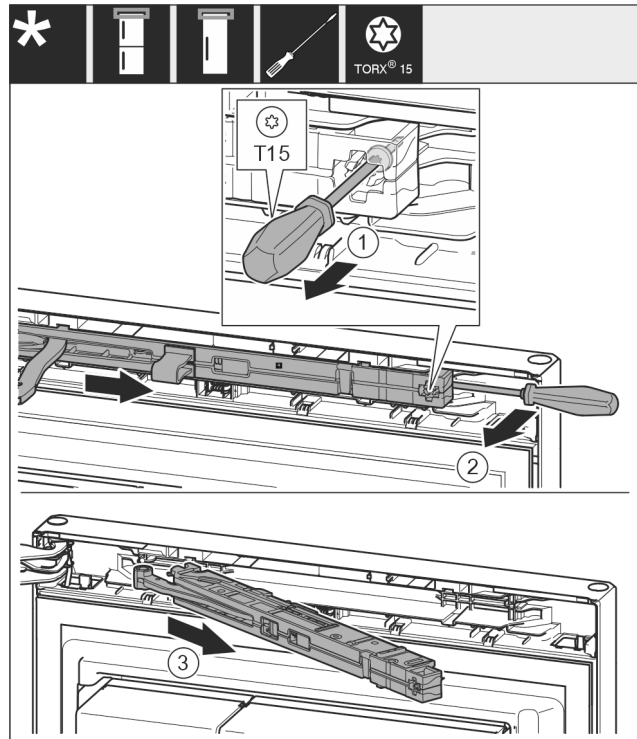

Fig. 9
- Loosen the soft stop unit screw with a T15 screwdriver approx. 14 mm (0.55 in). Fig. 9 (1)
- Insert a screwdriver behind the soft stop mechanism on the handle side and rotate the unit forwards. Fig. 9 (2)
- Pull out the soft stop unit. Fig. 9 (3)